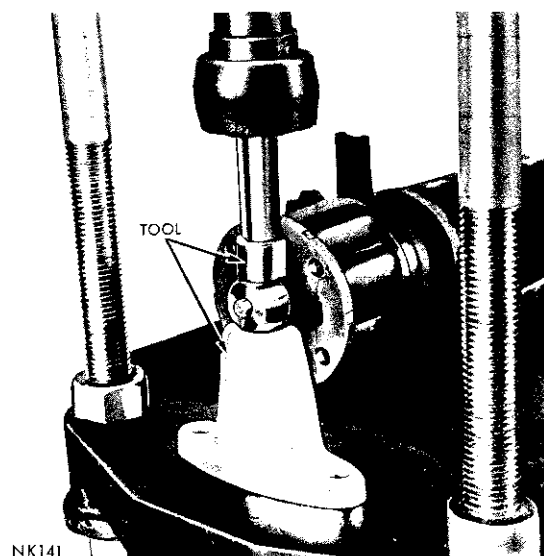

Fig. 13—Installing the Trunnion Pin
(2) If the trunnion pin was removed, install it, or a new pin in the propeller shaft, using a hydraulic press and the correct Jig, as specified above. The pin is properly centered when the press ram contacts the spacer portion of the Jig (Fig. 13).